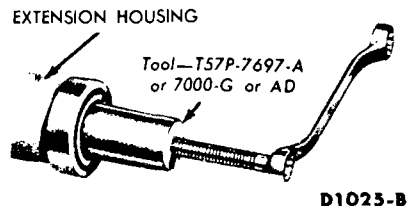
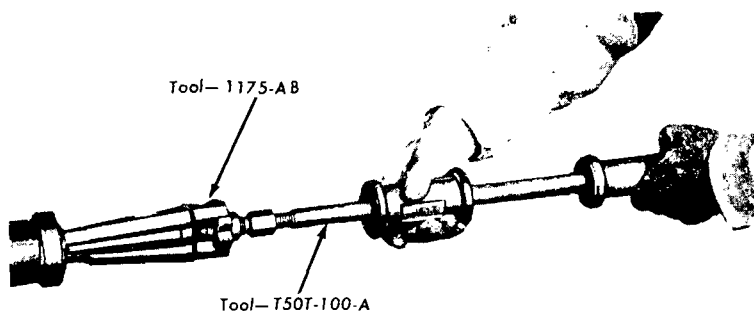

FIG. 29—Removing Extension Housing Bushing
FIG. 28—Removing Extension Housing Seal
2. When only the rear seal needs replacing, carefully remove it with a tapered chisel or the tools shown in Fig. 28. Remove the bushing as shown in Fig. 29. Use the bushing remover carefully so that the spline seal is not damaged.